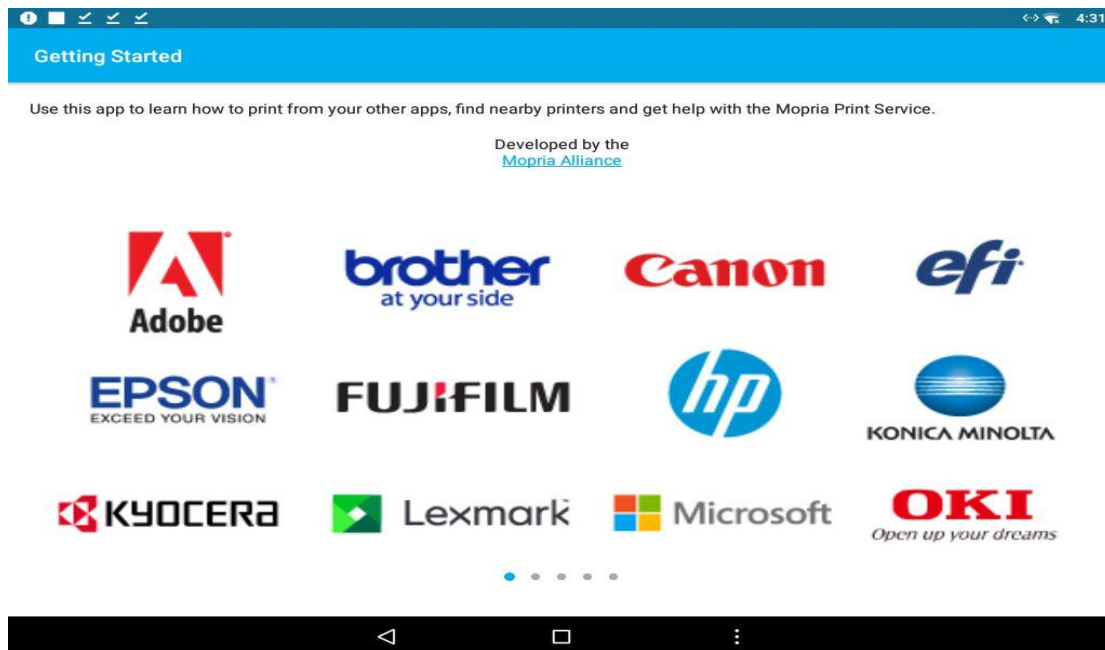
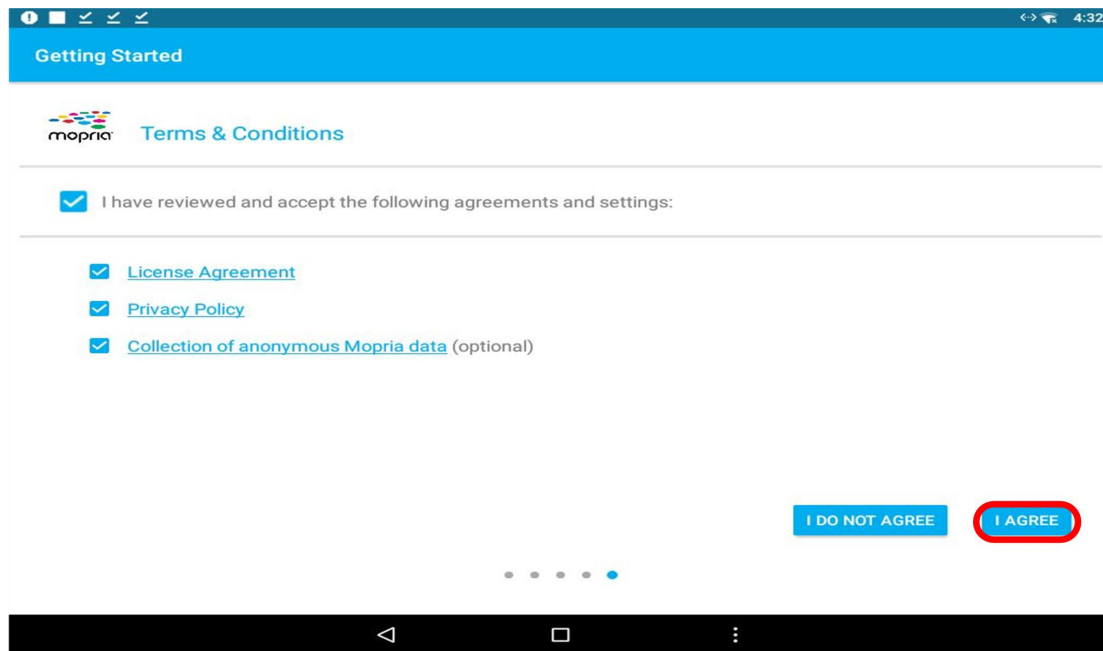

Figure 6
Figure 7
3、 Open the installed printing software, as shown in Figure 6. Go to the last page and check "**Agree**" license agreement and privacy policy. Click "**AGREE**" to start using the software, as shown in Figure 7.